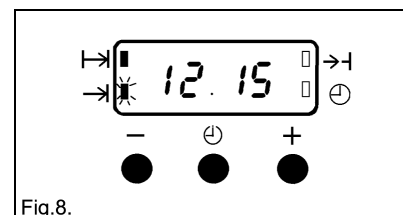

Fig.8.
- v) To set the 'End Time'. Press the Selector Control button until the 'End Time' (→|) flashes. Press the increase control (+) until the required stop time is displayed, e.g. 12.15 p.m. as Fig. 8. If necessary depress the decrease control (-) until the correct time interval is achieved.